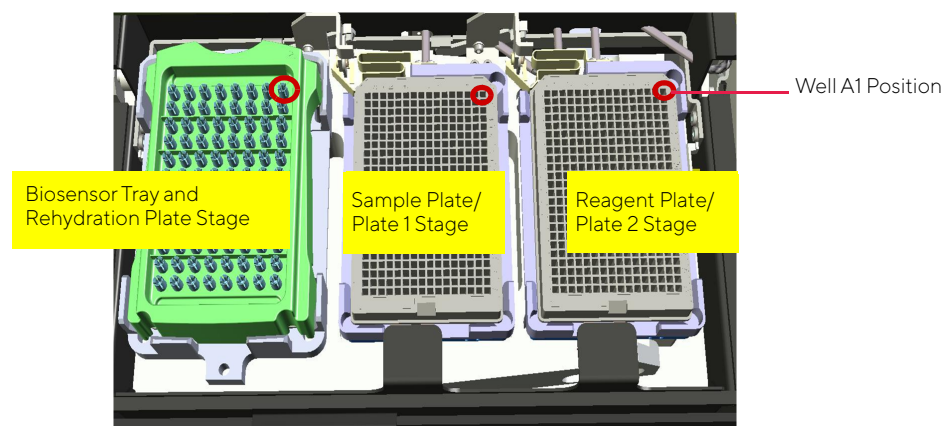

Figure 10-87: Octet[®] Instrument Stage Platform
2. Place the biosensor tray, sample plate, and reagent plate on the appropriate stage so that well A1 is located at the upper right corner (see Figure 10-87):